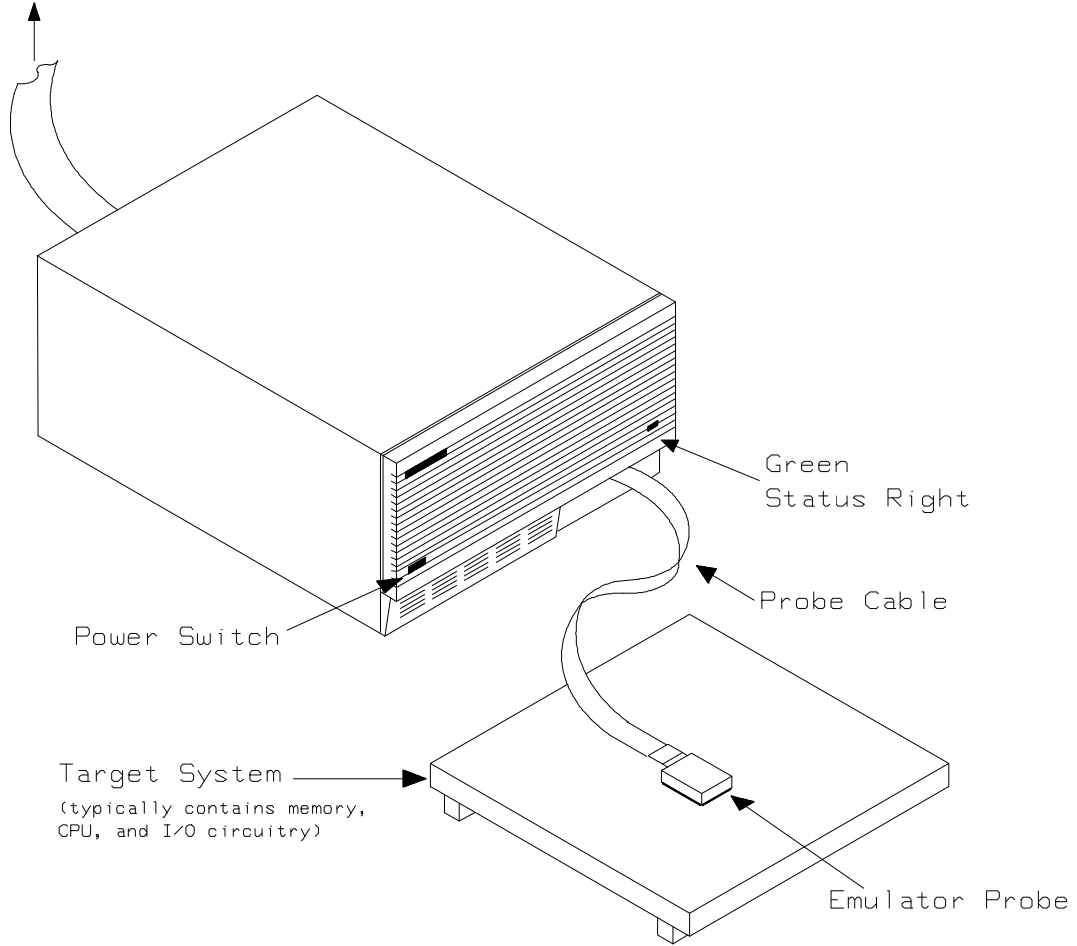

Figure 1-1. HP 64792 Emulator for uPD70216
- Figure 1-1. HP 64792 Emulator for uPD70216 1-2